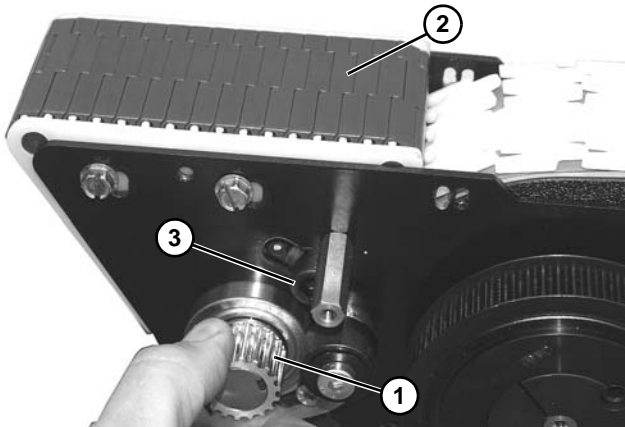

Figure 162
- Rotate drive shaft (**Figure 162, item 1**) to verify tightness of belt (**Figure 162, item 2**). Belt should turn freely. Loosen idler socket head screw (**Figure 162, item 3**) and adjust, if necessary.